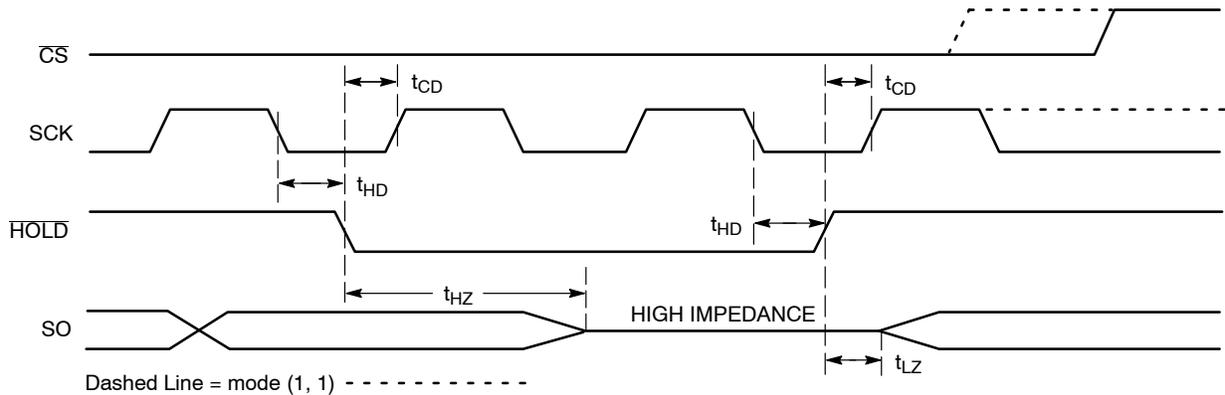

Figure 11. HOLD Timing
The $\overline{\text{HOLD}}$ input can be used to pause communication between host and CAV25010/20/40. To pause, $\overline{\text{HOLD}}$ must be taken low while SCK is low (Figure 11). During the hold condition the device must remain selected ($\overline{\text{CS}}$ low). During the pause, the data output pin (SO) is tri-stated (high impedance) and SI transitions are ignored. To resume communication, $\overline{\text{HOLD}}$ must be taken high while SCK is low.